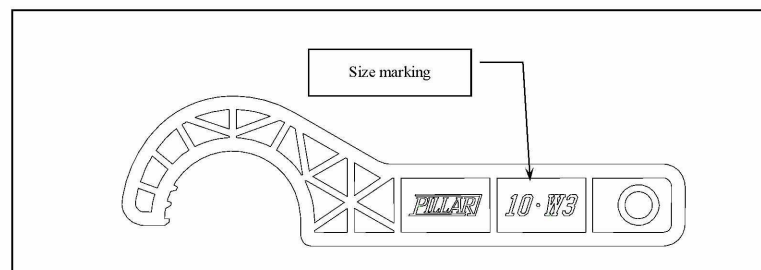

Fig. 8- Spanner for tightening the union nut
- The use of the dedicated spanner allows you to more efficiently tighten the union nut (see Fig. 8).